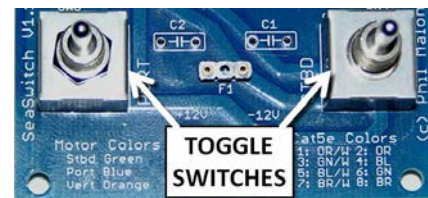

Figure 3.3-3: Toggle Switches Installed in the "SW1" and "SW2" Locations
- Find the two **toggle switches** and the **control box lid**. Place the switches in the "SW1" and "SW2" locations on the PCB, as shown in Figure 3.3-3. It is also important to keep these switches **flat** against the board while they are soldered into place, so that they will be straight when the control box is finished. A good way to do this is to use the control box lid to hold the switches while soldering. Put the toggle handles through the two center holes in the control box lid (they may be tight). Then, while holding the PCB against the back of the switches, turn the assembly over and place it across the open top of the control box, as shown in Figure 3.3-4. Hold the PCB down flat while soldering the first of the 12 switch connections, to make sure that it will be tight against the switches.